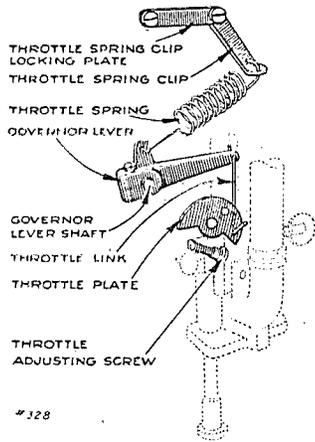
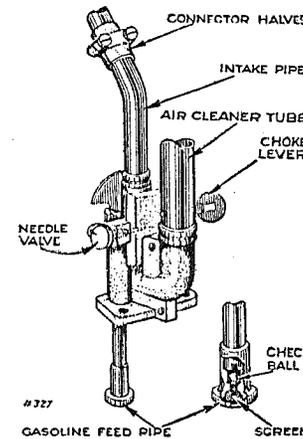

Fig. 9.
Fig. 10.
48. **Speed Adjustment.** Normal motor speed 1750 R. P. M. To change motor speed, change tension of throttle spring by moving throttle spring clip. More tension on throttle spring increases speed, less tension reduces speed. (See figure 9.)
49. **Resetting Governor Lever.** If governor lever has been loosened on its' shaft it is reset as follows: (See Fig. 9). With carburetor
50. The carburetor used on your Model "S" Motor is shown in Fig. 9 and Fig. 10. As received from the factory it is properly adjusted. However if it has been tampered with, it can be adjusted over again as described below.
shown in (Figure 9), and the other end hooked thru' the small hole in the long end of the governor lever. The throttle spring clip is held to the crankcase under the throttle spring clip locking plate. The throttle spring must have the coiled end hooked into the throttle spring clip and the other end hooked into the eye of the cotter pin in the governor lever:
54. **Idling Adjustment.** The idling speed can be adjusted by the throttle adjusting screw shown in (Figure 9). By screwing the adjusting screw clockwise will increase the idling speed, counter-clockwise will decrease the idling speed.